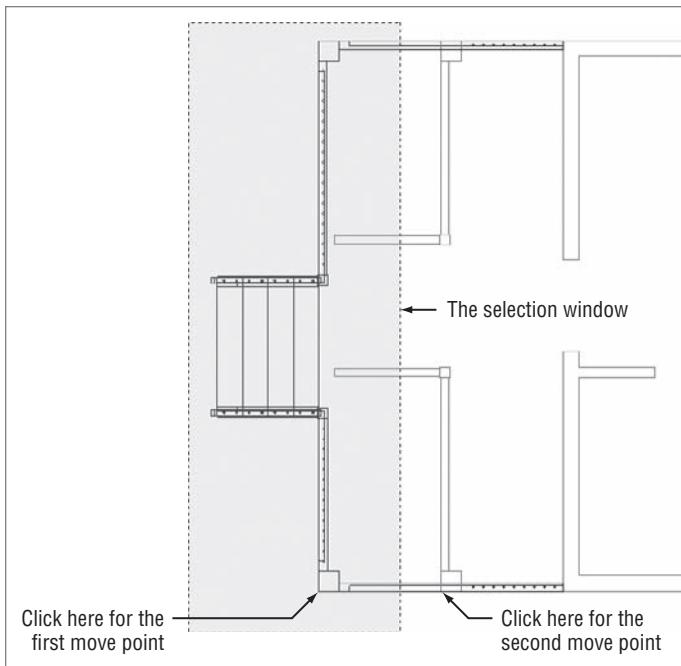

FIGURE 16.70 Moving the deck to make it narrower
9. Click the Move tool from the Modify panel and drag a crossing window, dragging from right to left around the front of the deck and the stairs, as shown in Figure 16.70.